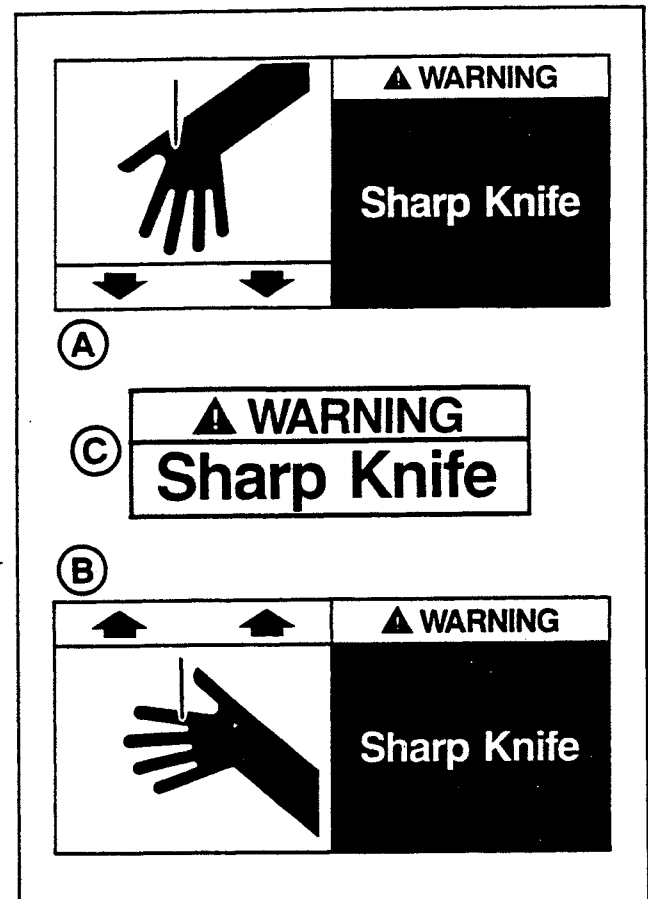

Figure 1-1 - Knife Warning Labels
The two illustrated labels (A-B), "Warning Sharp Knife" shown in figure 1-1, are attached to the sides of the upper frame at the location of the cut-off blade on the upper taping head. Two of the same labels are attached to the bed frame at the location of the cut-off blade on the lower taping head. The labels warn operators and service personnel of the very sharp knife used to cut the tape at the end of the tape application.
The "Warning - Sharp Knife" label (C), shown in figure 1-1, is attached to the orange cut-off blade guard on both taping heads. The label warns the operator and service personnel of the very sharp knife located behind the guard and to keep hands out of this area except for tape loading and/or servicing the taping heads.